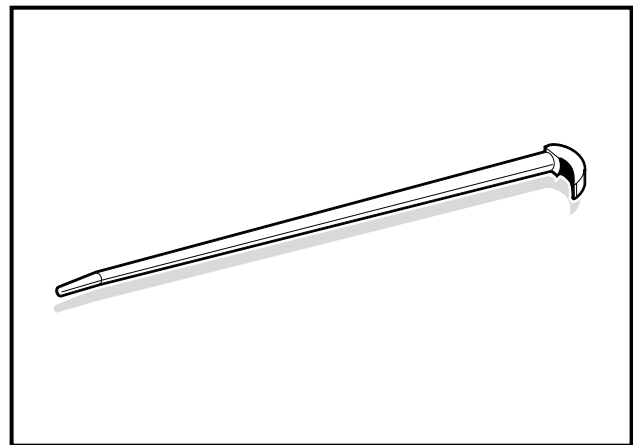
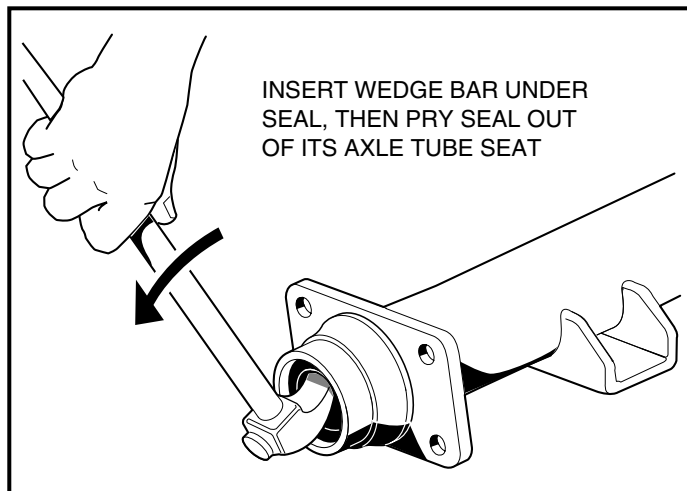

FIGURE 10-4
FIGURE 10-5
5. Use a 16 inch (40 cm) rolling wedge bar (**Figure 10-4**) to remove the oil seal. Insert the wedge bar under the seal and pry it out (**Figure 10-5**).